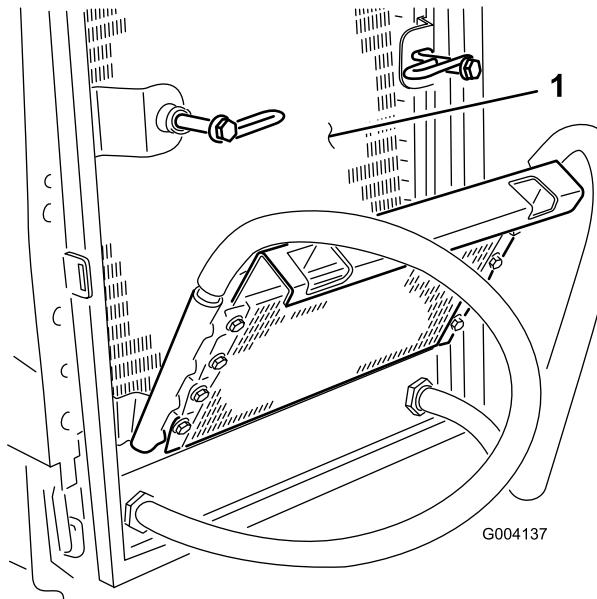

Figure 61
6. Thoroughly clean both sides of the oil cooler and the radiator (Figure 61) with compressed air.